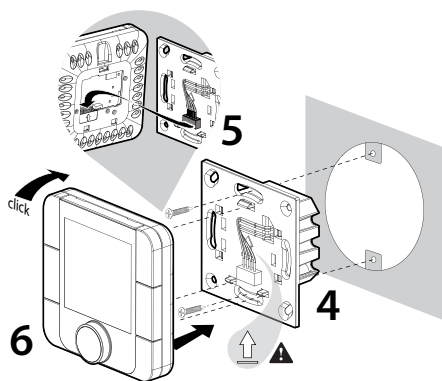

Fig. 6
- per i modelli AT*****D* inserire le viti come indicato in fig. 6 e 7;
- for models AT*****D* insert the screws as shown in Fig. 6 and 7;